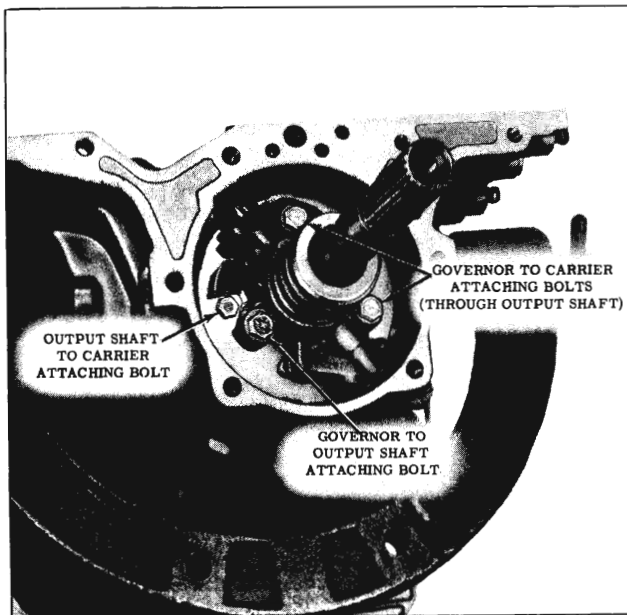

Fig. 3-302 Governor Attachment
26. Install the governor assembly with 3 attaching bolts. Torque 22-27 ft. lbs. (Fig. 3-302)